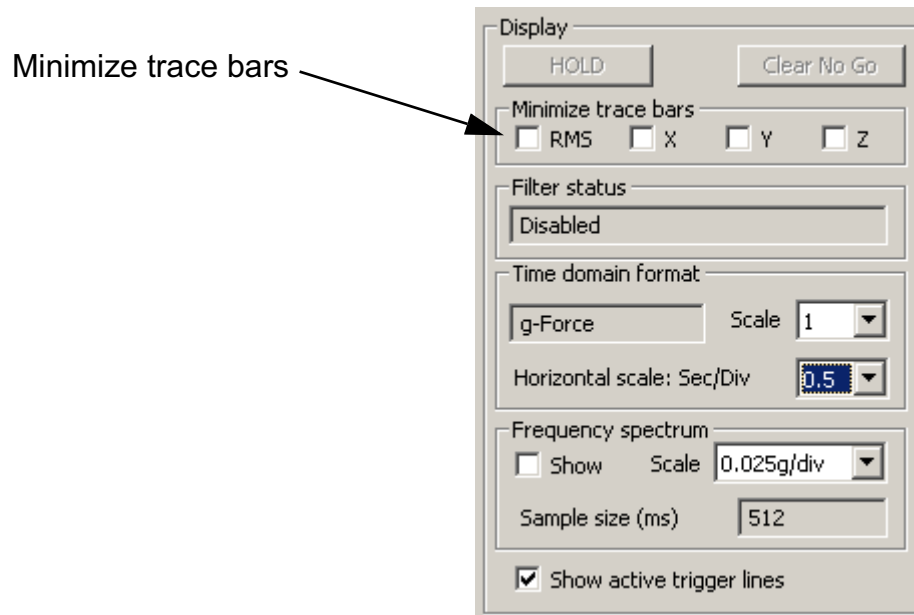

Figure 3.19: Minimizing Trace Bars
- In the Display controls, under **Minimize trace bars**, check the boxes for the traces you want to minimize (see Figure 3.19).